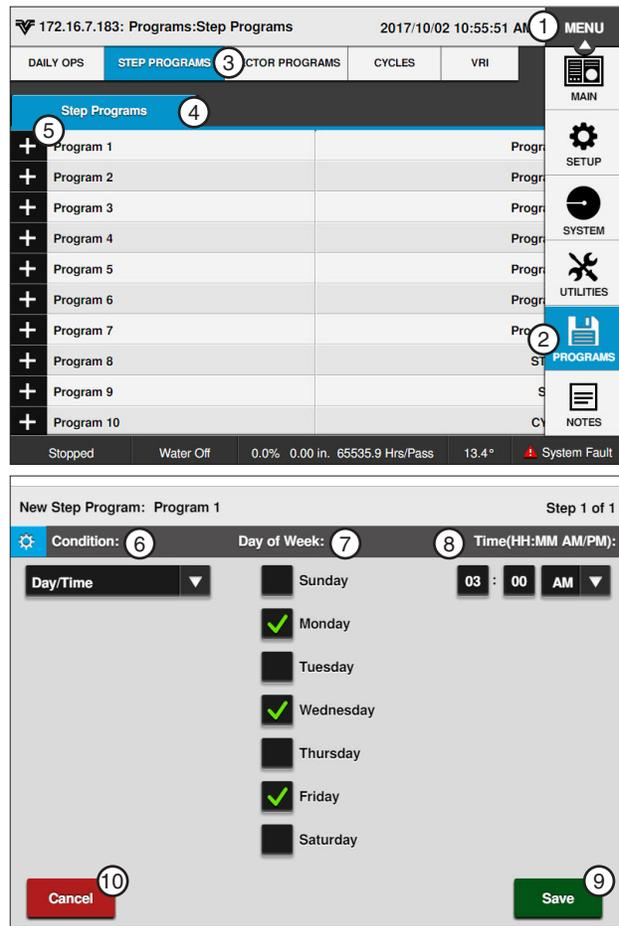

Figure 108-2 1. Menu 6. Condition
2. Push the **New Program** button corresponding to the preferred program number as shown in Figure 108-2.
3. Program the day and time for this step. Refer to Figure 108-2.